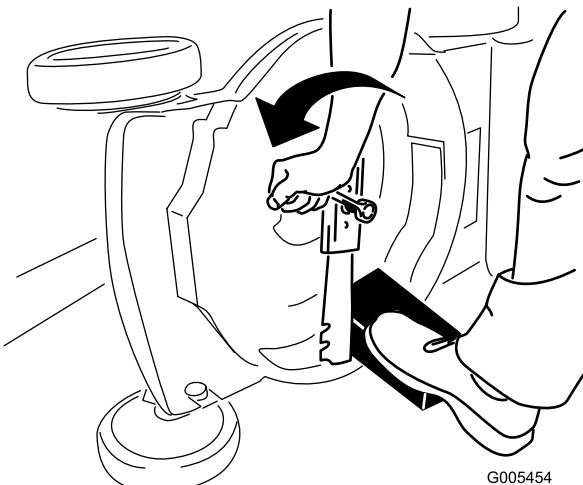

Figure 28
4. Remove the blade, saving all mounting hardware (Figure 28).